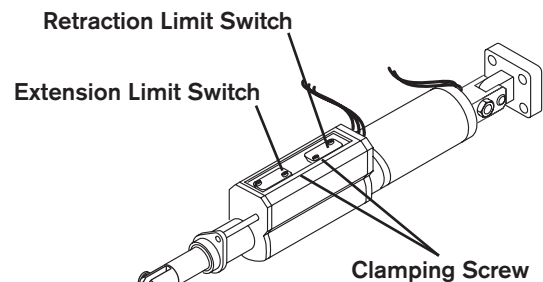

FIGURE 3
4. Use a screwdriver to loosen the Clamping Screw on the Extension Limit Switch (See Figure 3).
5. Depending on the type of Web Guide Amplifier being used, slide the Extension Limit Switch toward the Retraction Switch until the End of Travel LED comes on or the End of Travel Relay Contacts close (See Figure 3).
6. Tighten the Clamping Screw on the Extension Limit Switch (See Figure 3).
8. Use a screwdriver to loosen the Clamping Screw on the Retraction Limit Switch (See Figure 3).
9. Depending on the type of Web Guide Amplifier being used, slide the Retraction Limit Switch toward the Extension Limit Switch until the End of Travel LED comes on or the End of Travel Relay Contacts close (See Figure 3).
10. Tighten the Clamping Screw on the Retraction Limit Switch (See Figure 3).
11. Replace the Rubber Sealing Strip in the Limit Switch Housing (See Figure 3).